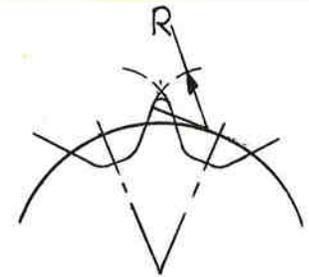

Figure No. 7
STEP No. 10: Draw topping radius (R) which is equal to $P/2$ and is tangent to the end of the working face. Since the topping radii intersect at a sharp point, a small fillet radius is used to round off the tips of the teeth. (See Figure No. 7).